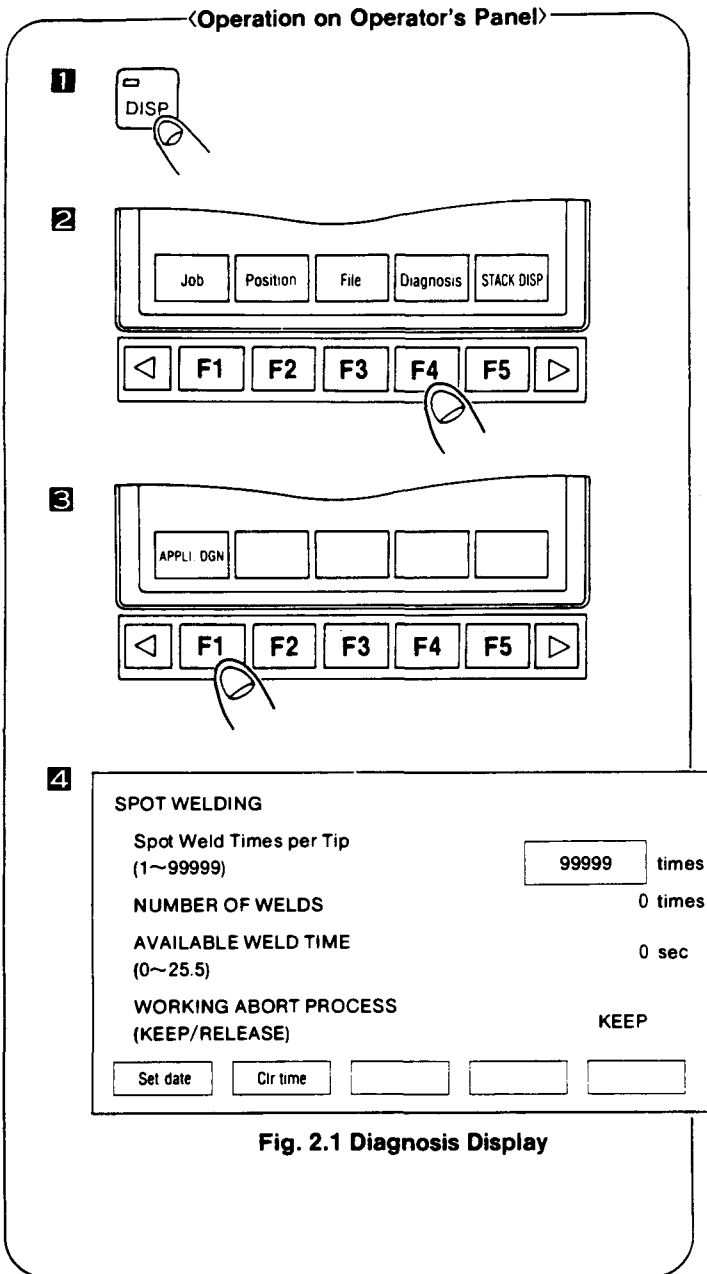

Fig. 2.1 Diagnosis Display
The diagnosis display of each application is added in the display shown in Fig. 2.1.
- The time allowed for a single spot is set in the display (Fig. 2.1), by moving the cursor to the "AVAILABLE WELD TIME" position and setting optional data.